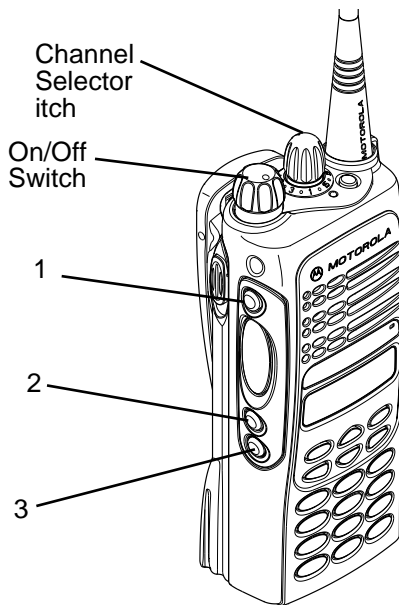

Figure 4-1. Radio Side Button Locations
2. Within ten seconds after the self test is complete, press side button 2, shown in Figure 4-1, five times in succession.
2. Within ten seconds after the self test is complete, press side button 2 (Figure 4-1) five times in succession.
The radio channels and test frequencies are listed in Table 4-4. The channels are selected using the channel selector switch located on top of the radio, as shown in Figure 4-1. The test environment and channel spacing for any particular frequency is selected using side buttons 1 and 2, as listed in Tables 4-1, 4-2, and 4-4. The display radio shows the selected parameters on the radio display, and sounds the corresponding number of beeps and tones listed in Tables 4-1 and 4-3. The non-display radio only sounds the beeps and tones.